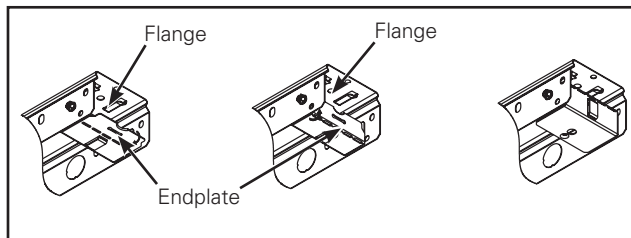

Figure 1.
1. Bend end piece to allow wiring into the fixture. (Figure 1.)